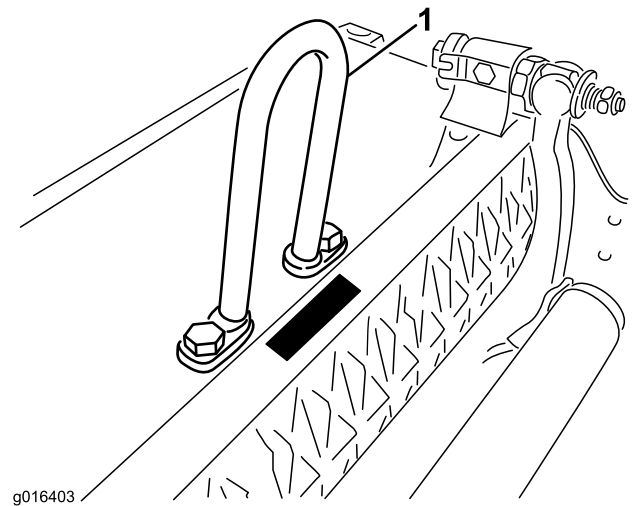

Figure 3
Install the hoop link to the top of the cutting unit with (2) capscrews. Torque the capscrews to 25-30 ft-lbs. (34-40 N-m) (Figure 3).